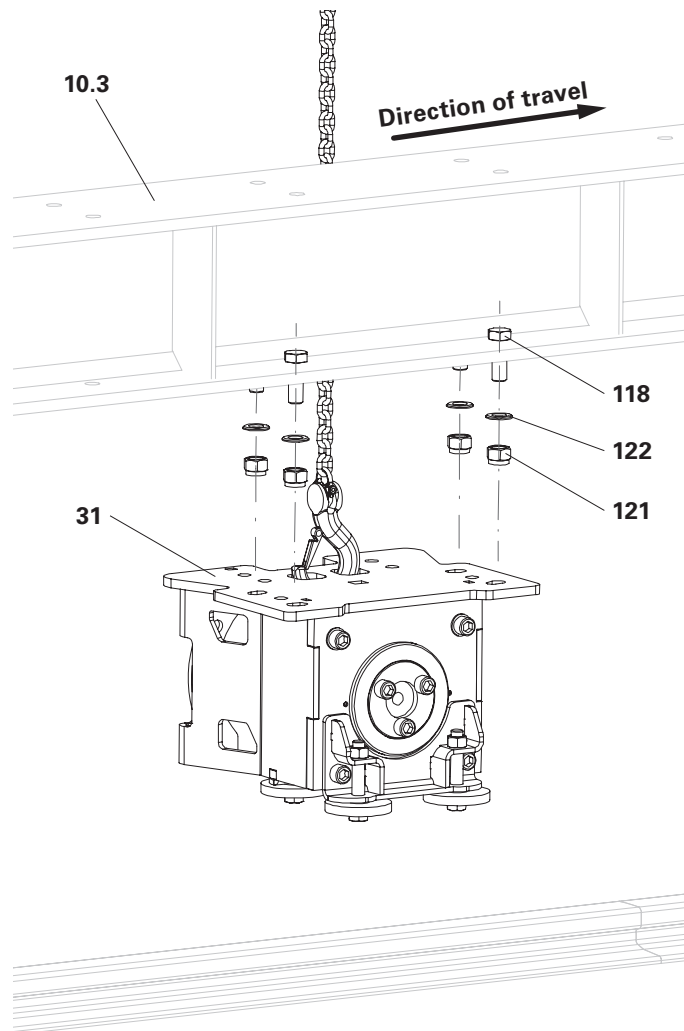

Fig. B4.08
4. Remove the crane lifting gear. (Fig. B4.08)